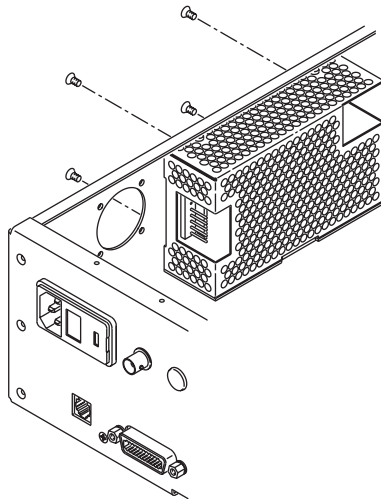

Figure 3-8. Removing the Power Supply
- 5 While holding the power supply in position, use a #2 Phillips screwdriver to remove the four countersunk flathead screws that fasten the power supply to the side wall of the chassis (see Figure 3-8).